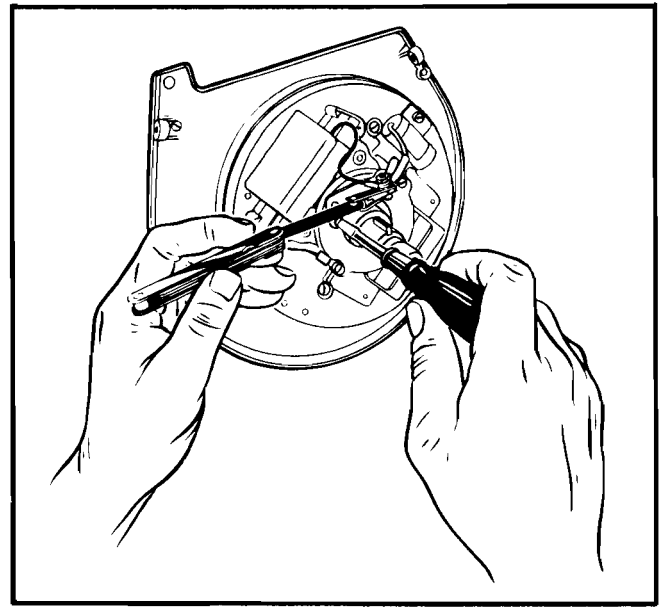

Figure No. 25—Gapping Breaker Points—Scintilla
5. The breaker points are then adjusted to a desired gap of (.018 inch) (See Figure No. 25) when the crankshaft has been rotated until the cam follower is on the high point of the cam and the contacts are fully open. The measured breaker gap should be .018-.020.